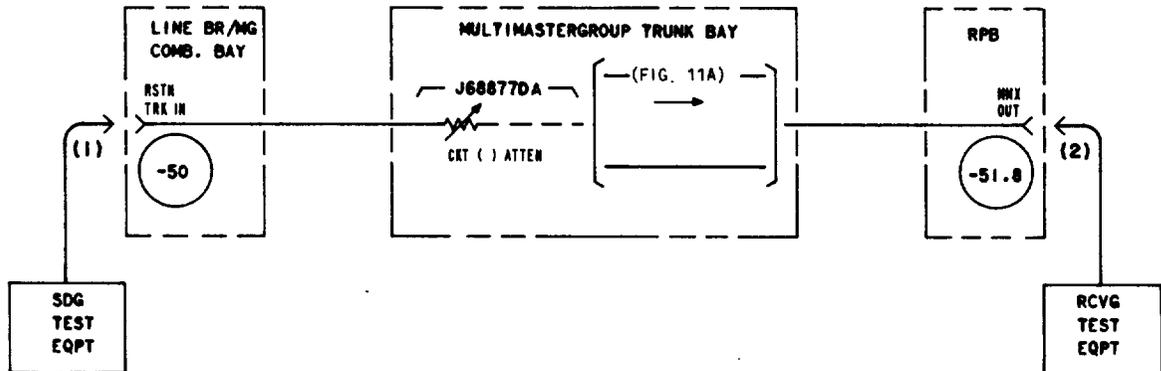

Fig. 7—Transmitting Restoration Trunk for Mastergroup Branching
3	Connect the STE to the RSTN TRK IN jack in the line branching/mastergroup combining bay [patch (1), Fig. 7].
4	Connect the RTE to the appropriate MMX OUT jack in the restoration patch bay [patch (2), Fig. 7].
**Note 1:** A zero-loss trunk (Fig. 9A) may be used in conjunction with this trunk. In this case, the zero-loss trunk should be tested as prescribed in Chart 9A. The zero-loss trunk is indicated in Fig. 7 by the designation Fig. 9A.